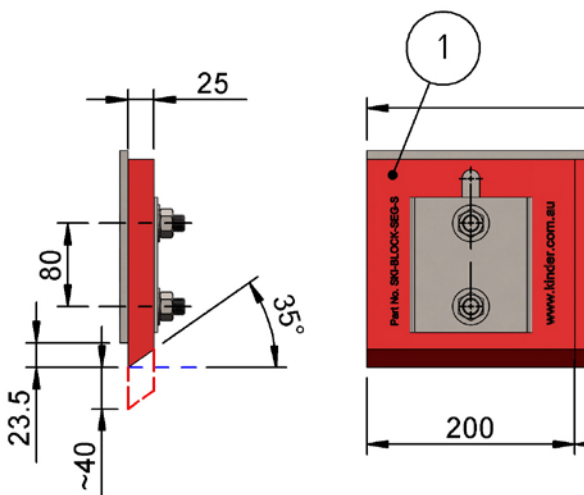

Fig 2
3. For side skirting installation, tack weld backing plates onto the side walls of chute or bins to previously marked positions. Install all polyurethane segments, ensure all segments are touching the belt without gap and all bevels are well engaged with belt. (See **Fig 2**, below left).